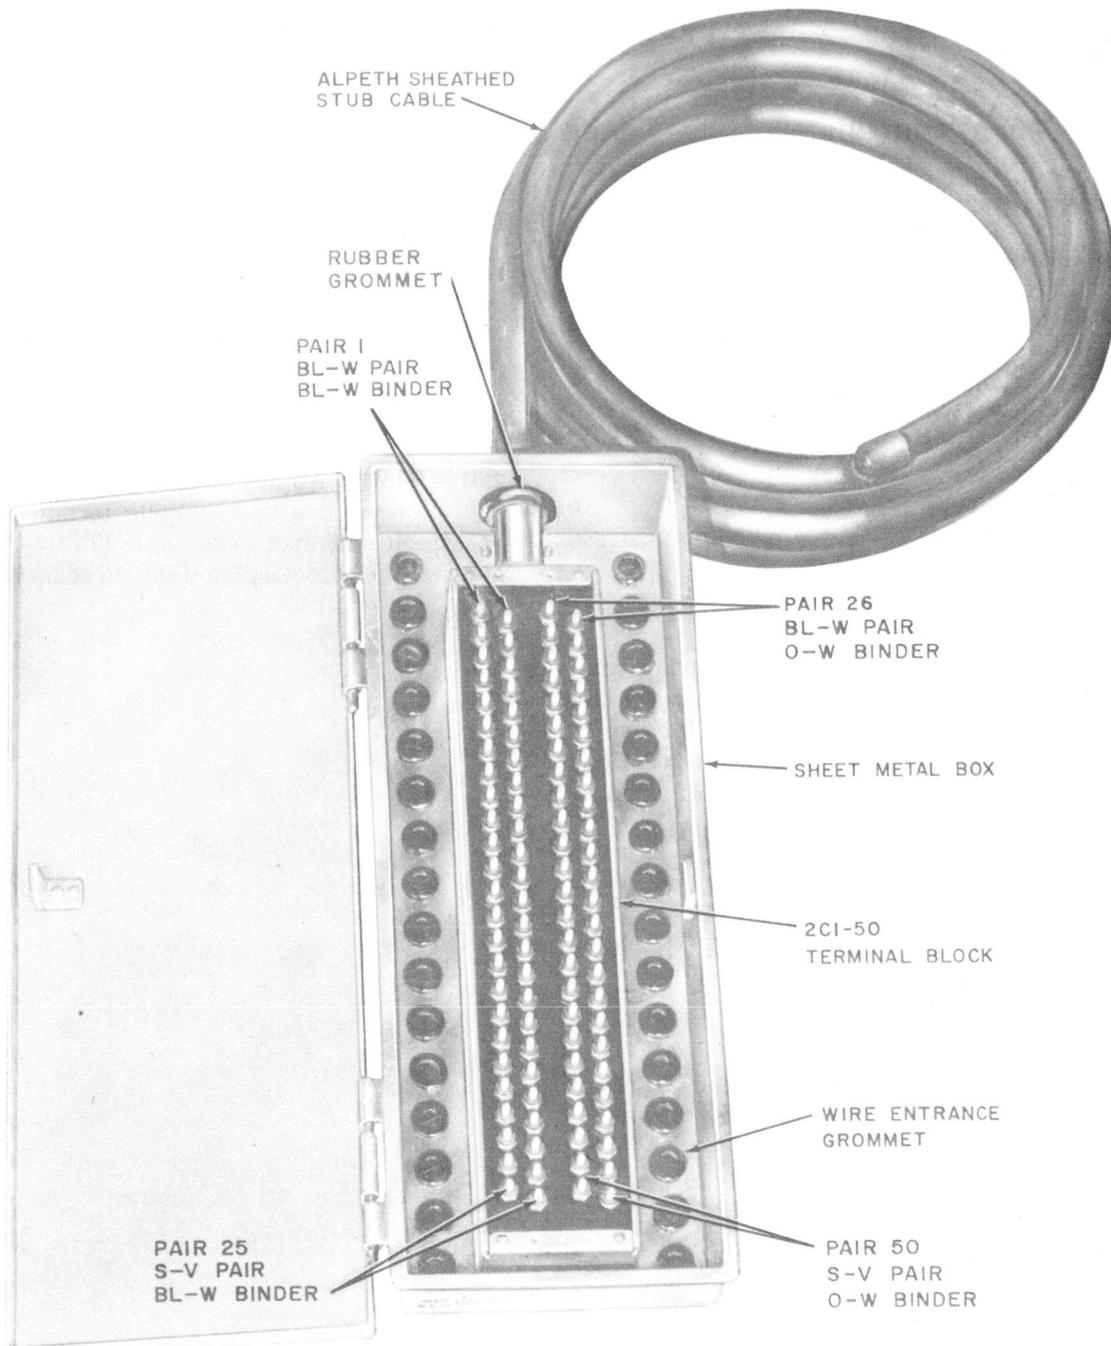

Fig. 1—53A3-50P Cable Terminal
2.01 The 53A3-50P cable terminal (Fig. 1) is provided with a 2C1-50P terminal block with an alpth sheathed stub cable (Table A) mounted in a weather-proof galvanized sheet metal box.